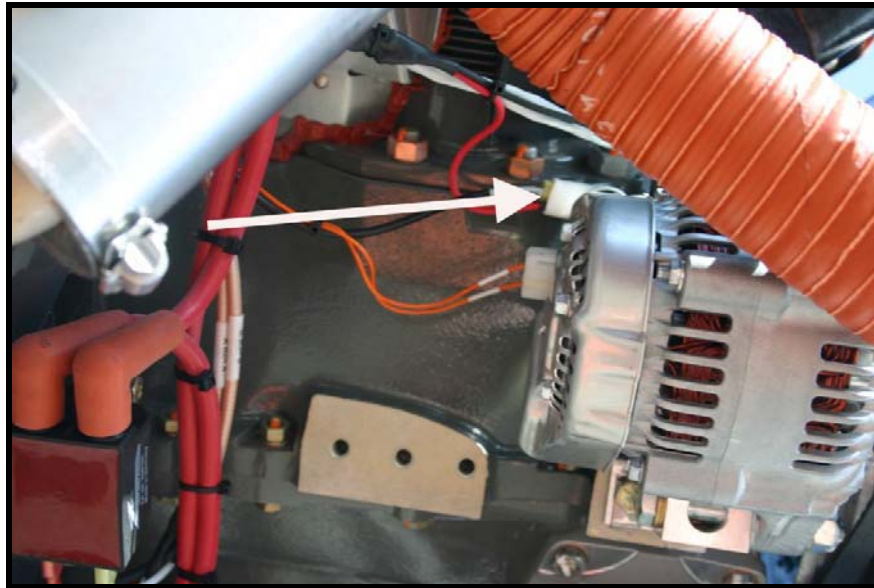

FIGURE 2
2. Remove these two wires from alternator "B+" terminal. See Figure 2.